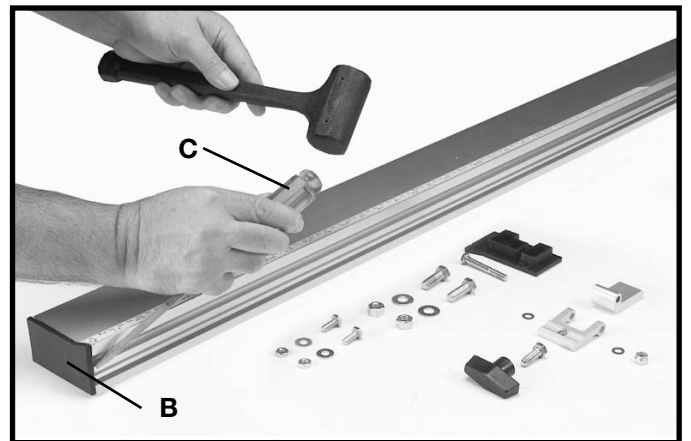
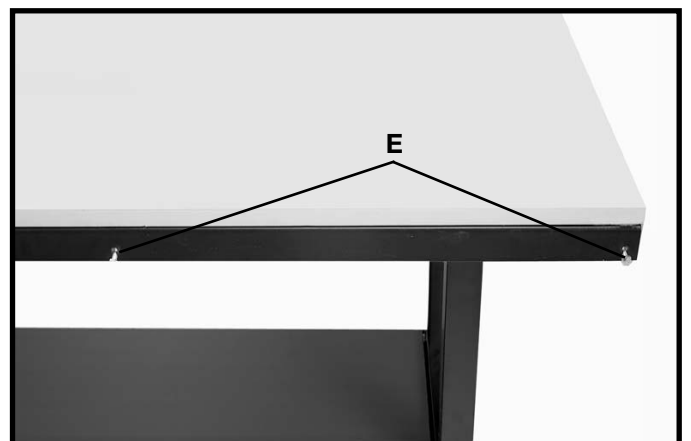

Fig. 74A
Fig. 74B
2. The guide rail has end caps inserted into each end of the rail. Remove the left end cap (B) Fig. 74A, by inserting a flathead screwdriver (C) into the channel in front of the guide rail and press outward against the inside of the end cap (B) as shown. The end cap (B) will pop out. Note: Do not attempt to remove the end cap by forcing the screwdriver between the end cap and the end of the rail. This will damage both the cap and the rail.
3. Insert two 3/8-24 x 1" hex head bolts into the two holes (F), in the front of saw table and place flat washer and nut onto bolt from underneath the saw table. Screw bolts into nuts two full turns, leaving bolt head extended approximately 1/2" from the table. Note: Make sure to use only the two holes shown at (F).
4. Insert two 1/4-20 x 3/4" hex head bolt into the front support of the extension table (E) Fig. 74B and place flat washer and nut onto bolt from underneath the extension table. Screw bolt into nut two complete turns, leaving bolt head extended approximately 1/4" from the extension table.